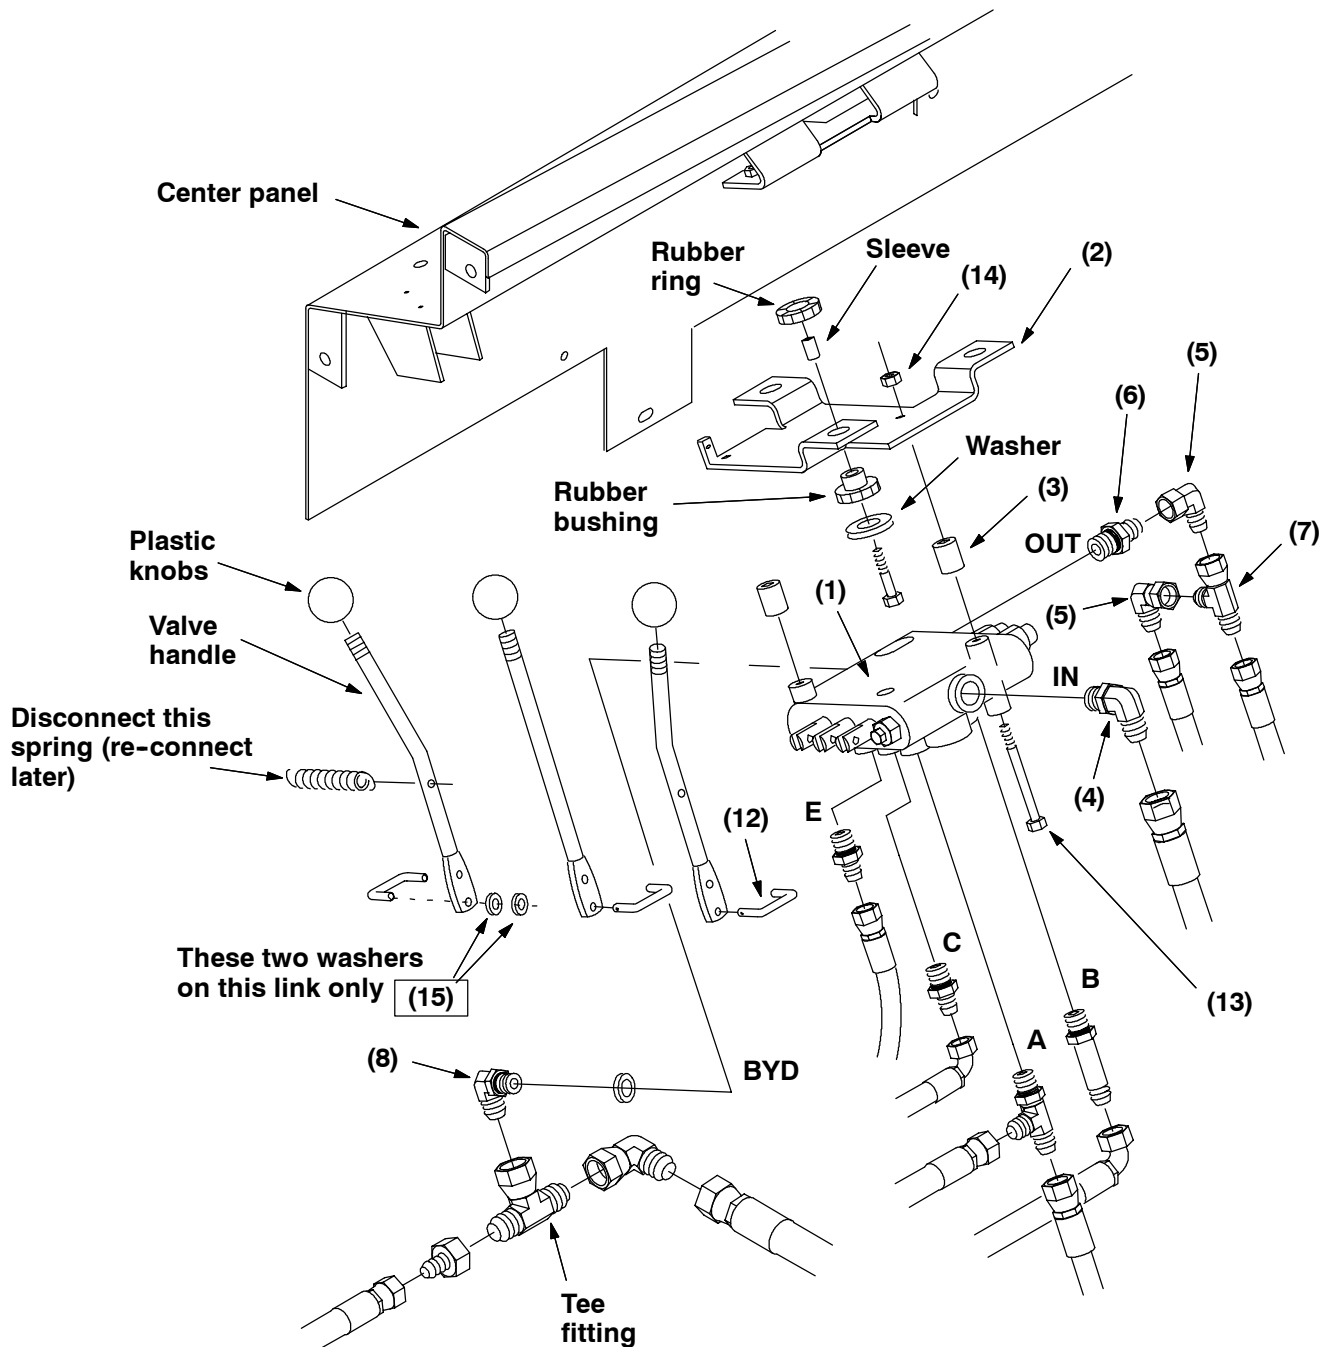

FIG. 1 - 355 Valve Installation
(Refer to FIG. 1, 2 and 3)
(Refer to Fig. 1, 2, and 3)
4. Remove and discard the two hex screws holding the control valve to the valve mount bracket. (Refer to Fig. 1, 2, and 3)
5. Disconnect the spring from the inside valve handle. (Refer to Fig. 1, 2, and 3)
7. Remove and retain the three hex screws holding the valve mount bracket to the center panel. Make sure to retain the three washers, rubber bushings, sleeves, and rubber rings after removing the hex screw. (Refer to Fig. 1, 2, and 3)
8. Discard the old valve mount bracket. (Refer to Fig. 1, 2, and 3)
9. Position the trim molding (11) on the machine's angled, center frame support. This will protect the control valve hoses from damage.
(Refer to Fig. 1)
1. Remove and retain the hair pins and clevis pins holding the three handles to the old valve. Remove and retain the three valve handles. Discard the three valve handle links. (Refer to Fig. 1)
2. Remove the existing fittings from the **A**, **B**, **C**, and **E** ports on the old valve. Install these fittings in the new valve (1) in the same orientation as they were removed. (Refer to Fig. 1)
3. Make sure the tee fitting that is on the 90° fitting in the **BYD** port on the old valve is removed and retained. (Refer to Fig. 1)
5. Install the 90° fitting (8) in the **BYD** port of the new valve (1). (Refer to Fig. 1)
6. Install the straight fitting (6) in the **OUT** port of the new valve (1). (Refer to Fig. 1)
7. Install one of the 90° fittings (5) on the fitting installed in step 6. (Refer to Fig. 1)
8. Install the tee fitting (7) on the fitting installed in step 7. (Refer to Fig. 1)
9. Install the second 90° fitting (5) on the 90° outlet of the fitting installed in step 8. (Refer to Fig. 1)
10. Install the 90° fitting (4) in the **IN** port of the new valve (1). (Refer to Fig. 1)
11. Install the old valve handles on the new valve (1) using the new handle links (12). (Refer to Fig. 1)
NOTE: Make sure the straight handle is installed in the center position and the handles with a bend are installed with the top of the handle pointing outward. (Refer to Fig. 1)
12. Install the new valve mount bracket (2) in the machine using the three washers, rubber bushings, sleeves, and rubber rings that were removed in step 7 of the TO REMOVE OLD VALVE instructions. Tighten the hardware firmly. (Refer to Fig. 1)
13. Position the new valve assembly in the machine. Carefully push the valve handles up through the rubber boot. A small amount of WD40 or other lubricant will make this easier. (Refer to Fig. 1)
14. Attach the new valve assembly to the new valve mount bracket (2) using the two hex screws (13), two sleeves (3), and two nyloc nuts (14). *The sleeves are placed between the valve and valve mount bracket.* Tighten the hardware to 7 - 10 ft lb. (Refer to Fig. 1)
15. Reconnect the hydraulic hoses to the new valve (1) starting from most inside fitting and working outward. (Refer to Fig. 1)
16. Reinstall the plastic knobs to the three valve handles. (Refer to Fig. 1)
17. Start the machine and operate the hydraulic components. Check the new valve and hoses for any leaks. Turn off the machine and check the hydraulic fluid reservoir for proper fluid level. (Refer to Fig. 1)